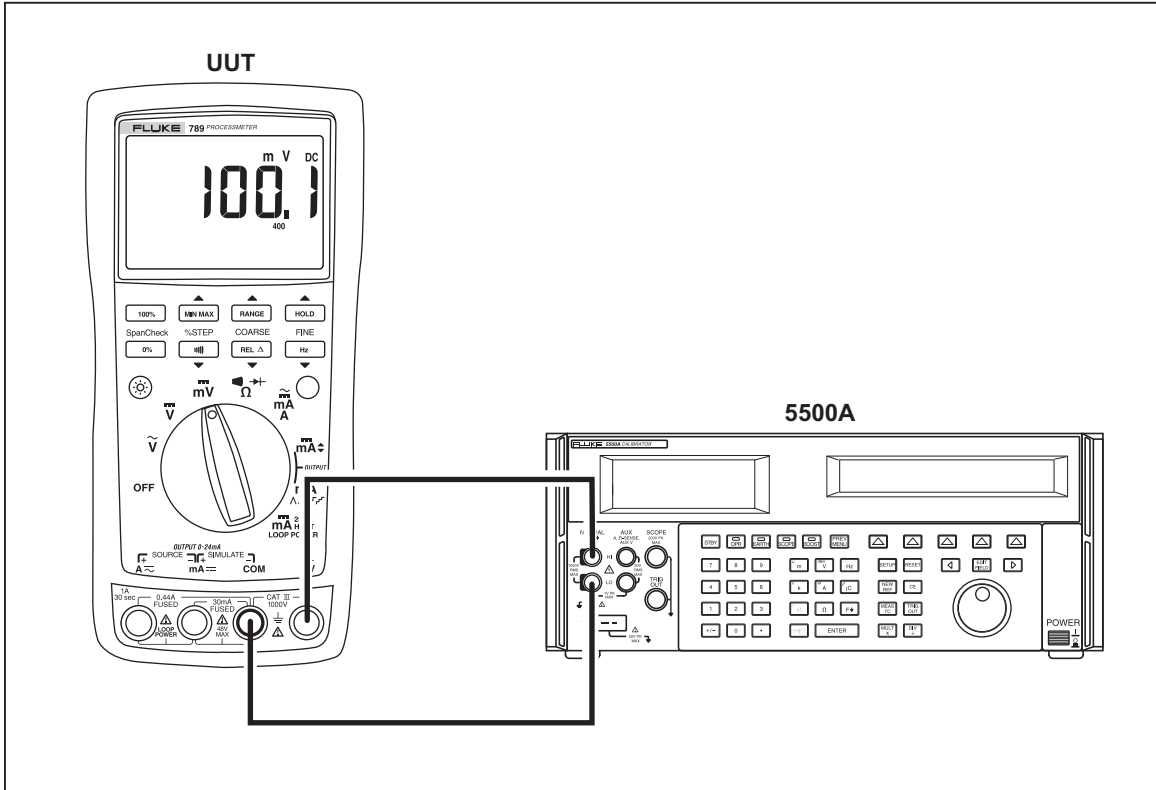

Figure 8. DC mV Measurement Test Connections
3. Connect the calibrator to the **COM** and ΩV terminals on the UUT as shown in Figure 8.